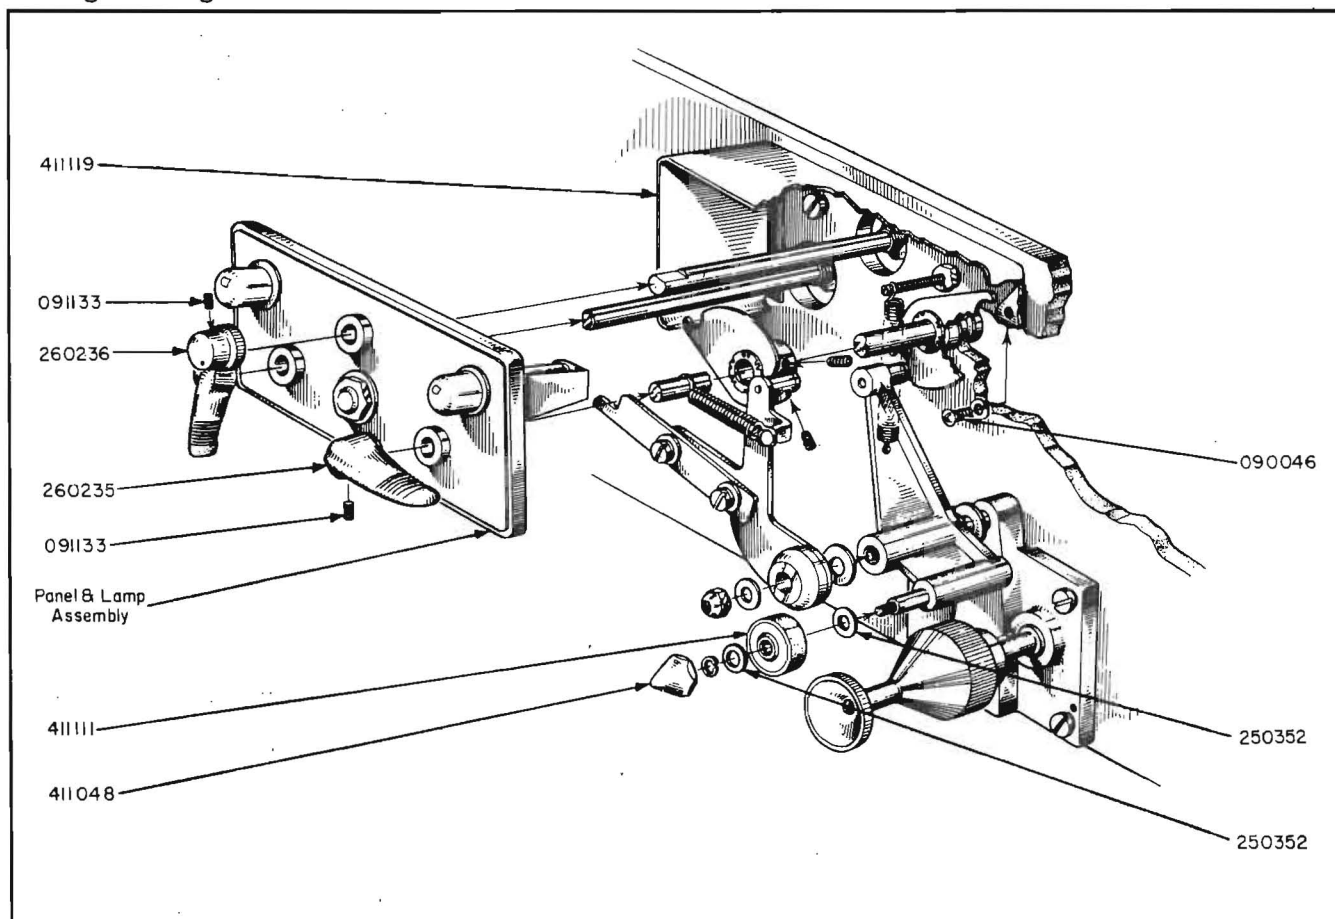

FIG. 12. Center Front Mechanical Assembly
1. 411111 Rubber Pressure Roller (Figure 12).
2. Panel and Lamp Assembly and 411119 Front Panel Casing (Figure 12).